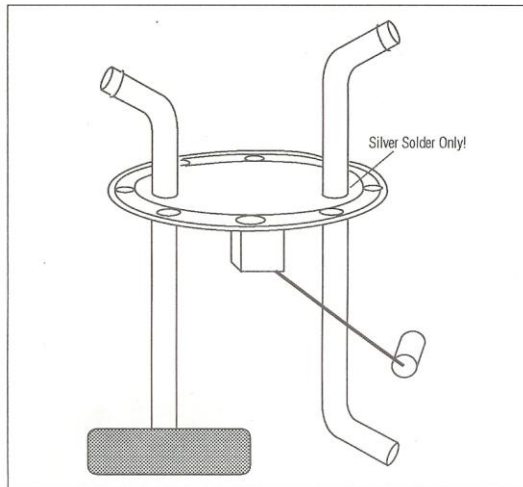

Figure 8
4. Position the tube away from fuel pick and temporarily secure for Soldering . (Figure 8).